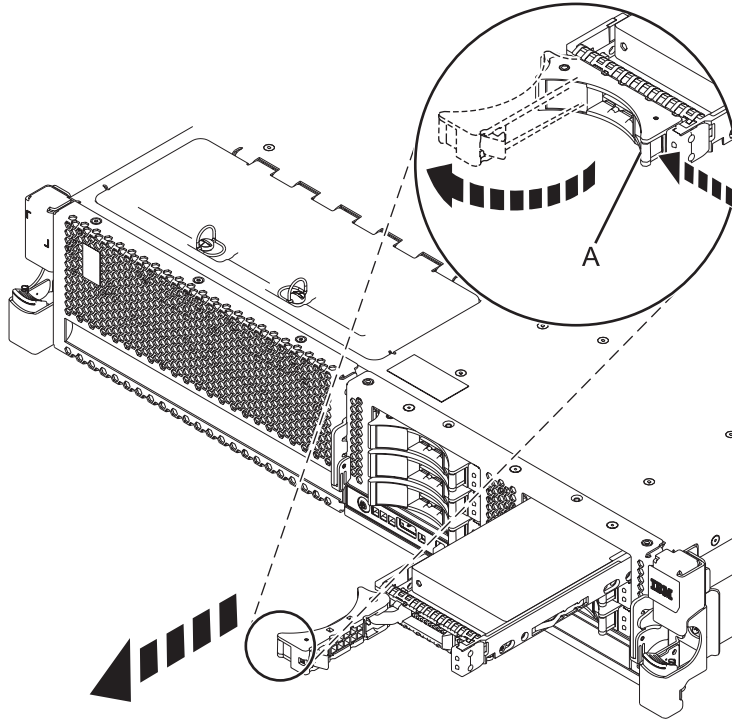

Figure 19. Removing a disk drive from the system
1. Unlock the disk drive or solid-state drive handle by squeezing it and pulling it out toward you, as shown in Figure 19 on page 33.